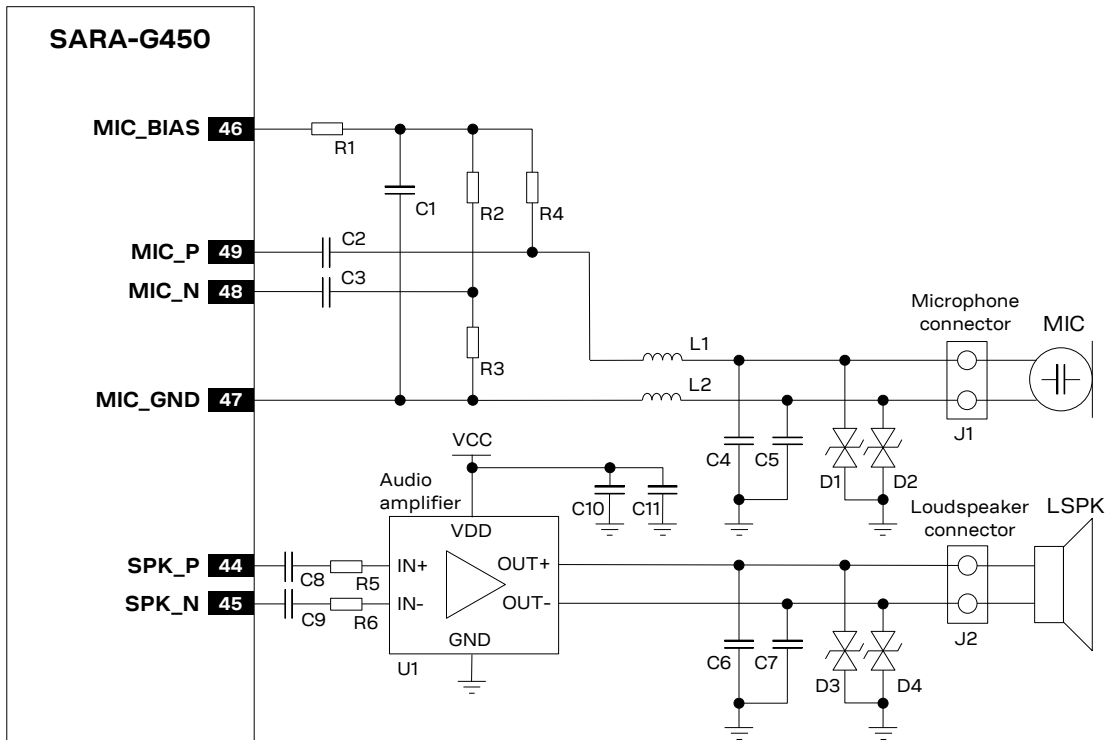

Figure 70: Analog audio interface application circuit
Figure 70 shows an application circuit for the analog audio interface, connecting a 2.2 k Ω electret microphone and an 8 Ω or 4 Ω loudspeaker:
As in the example circuit in Figure 70, follow the general guidelines for the design of an analog audio circuit:
- Provide an appropriate series capacitor at both **MIC_P** and **MIC_N** analog uplink inputs for DC blocking (as the C2 and C3 100 nF Murata GRM155R71C104K capacitors in Figure 70). This provides a high-pass filter for the microphone DC bias with a corresponding cut-off frequency according to the value of the resistors of the microphone supply circuit. Then connect the signal lines to the microphone.
- Mount an 82 nH series inductor with a Self-Resonance Frequency $\sim$ 1 GHz (e.g. the Murata LQG15HS82NJ02) on each microphone line (L1 and L2 inductors in Figure 70).
- Mount a 27 pF bypass capacitor (e.g. Murata GRM1555C1H270J) from each microphone line to solid ground plane (C4 and C5 capacitors in Figure 70).
- Provide a 47 nF series capacitor at both **SPK_P** and **SPK_N** analog downlink outputs for DC blocking (C8 and C9 Murata GRM155R71C473K capacitors in Figure 70). Then connect the lines to the differential input of an appropriate external audio amplifier, differential output which must be connected to the 8 Ω or 4 Ω loudspeaker (see the Analog Devices SSM2305CPZ filter-less mono 2.8 W class-D audio amplifier in the circuit described in Figure 70).
- Mount a 27 pF bypass capacitor (e.g. Murata GRM1555C1H270J) from each loudspeaker line to solid ground plane (C6 and C7 capacitors in Figure 70).
- Provide additional ESD protection (e.g. Bourns CG0402MLE-18G varistor) if the analog audio lines will be externally accessible on the application device, according to EMC/ESD requirements of the custom application. The protection should be mounted close to accessible point of the line (D1-D4 parts in the circuit described in Figure 70).